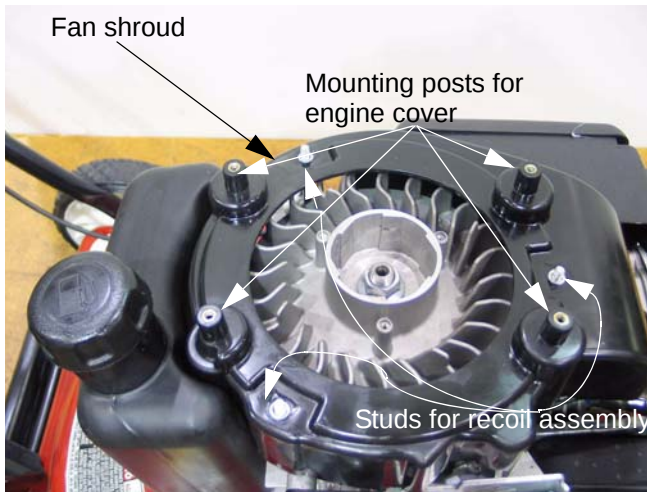

Figure 5.57
5.57. If further investigation is required, remove the recoil assembly, as described in the **STARTER SERVICE** section of this manual. See Figure 5.57.